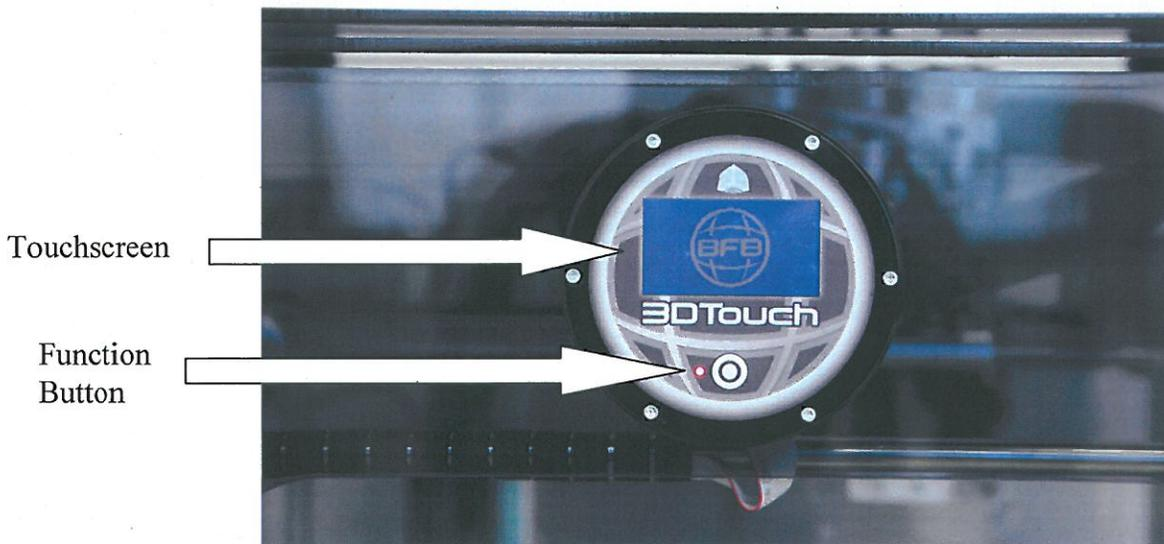

Figure 14: Touchscreen Interface
15. Press the **FUNCTION BUTTON** located on the touchscreen interface area (Figure 14).